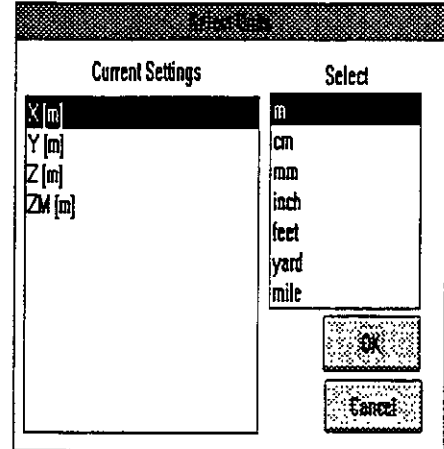

Figure 5-3
Depending on what you have selected to keep in your Master Data application you may select units for any entry that is identified as numerical (dimensioned) data type. In the standard case which is supplied as a default for master data structure, you may change units for coordinates (X and Y), for ground surface elevation (Z) and for elevation of the measuring point (ZM). When you select **Units** on the menu bar, the offering will be the same for whichever data entry you select to change. This is shown in Figure 5-3.